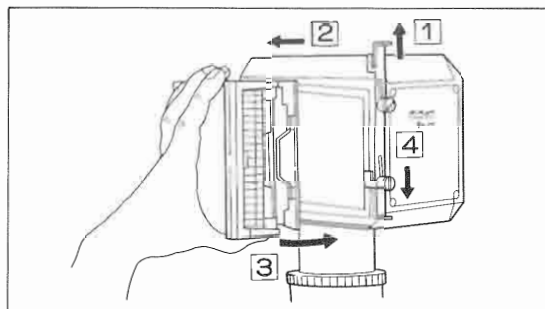

Fig. 30
1) Polaroid film holder installation (Fig. 30)